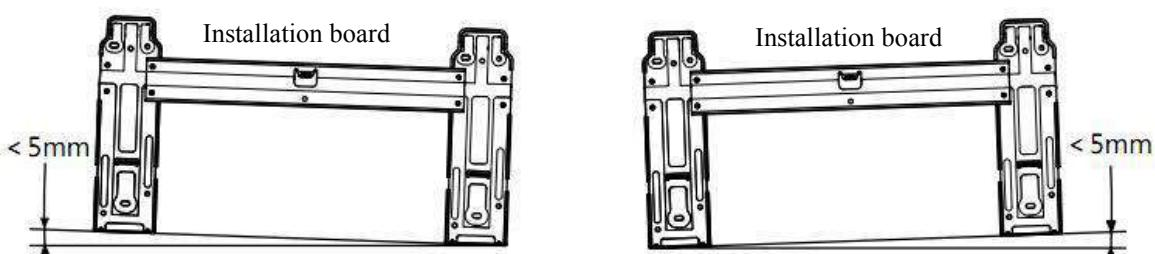

Fig 4
- Dismantle the metal installation board of the indoor unit. Adjust the installation board to horizontal position. The height difference between the left and right sides of the installation board should less than 5mm.(Fig 4)